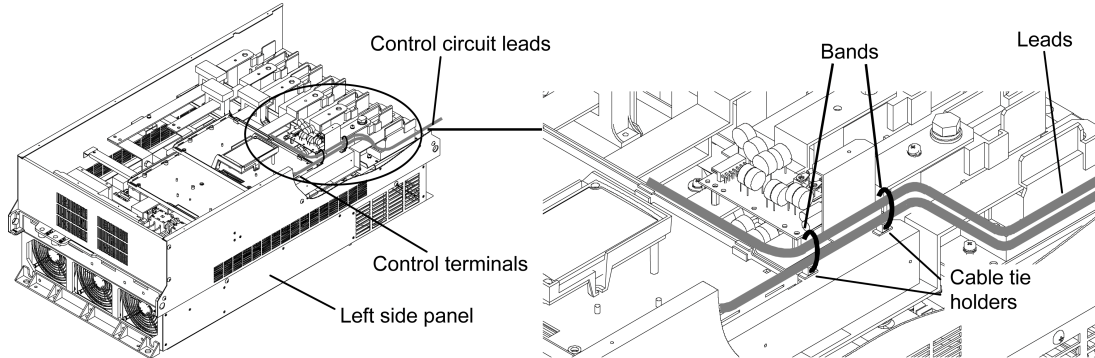

Figure 3-3-15
- (a) Pull the wiring out along the left side panel as shown in Figure 3-3-15.